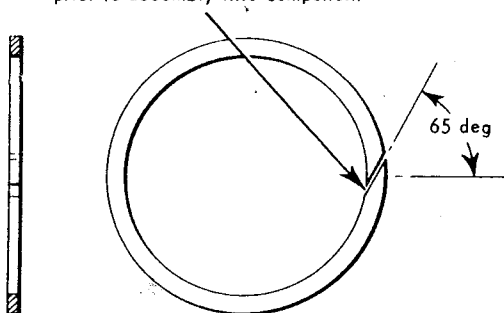

Fig. 2 Piston head sealing ring
- (1) Fit a new backing seal and two new sealing rings to each of the piston head grooves. Slit each ring as shown in figure 2 immediately prior to fitting. When fitting, space the first pair of rings with the slits 180 deg apart and similarly space the second pair with the slits at 90 deg to those of the first pair.